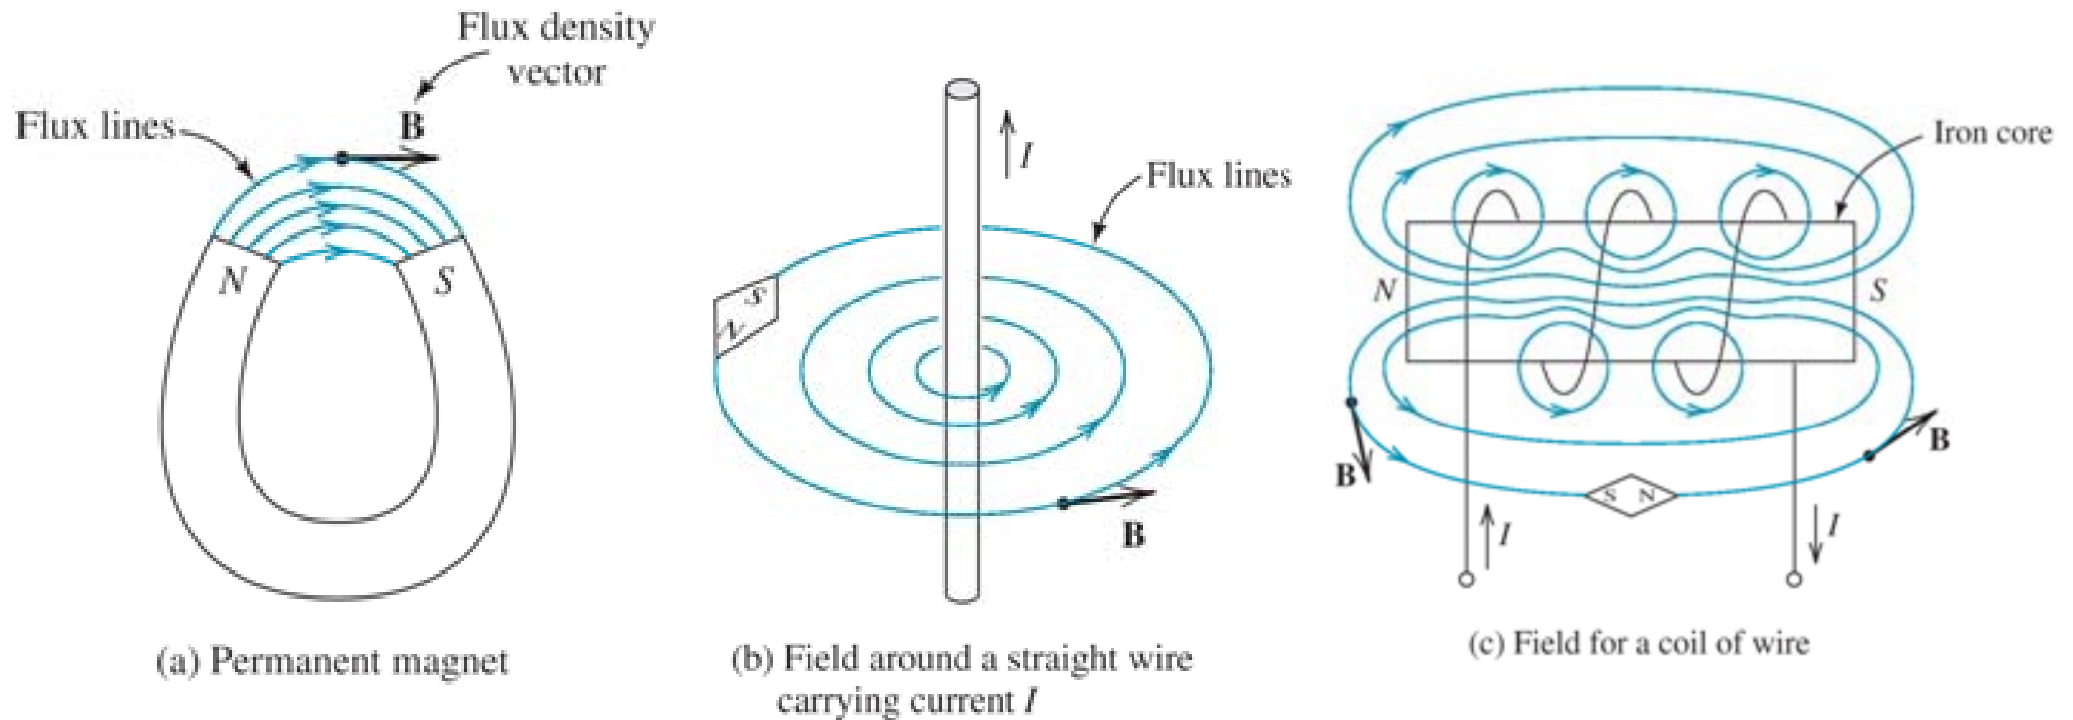

Fig. 3.1 (a) Permanent magnet, (b) field around a straight wire carrying current I and (c) field for a coil carrying current
- Magnetic field can be visualized as lines of magnetic flux that form a closed path as shown in Fig. 3.1.